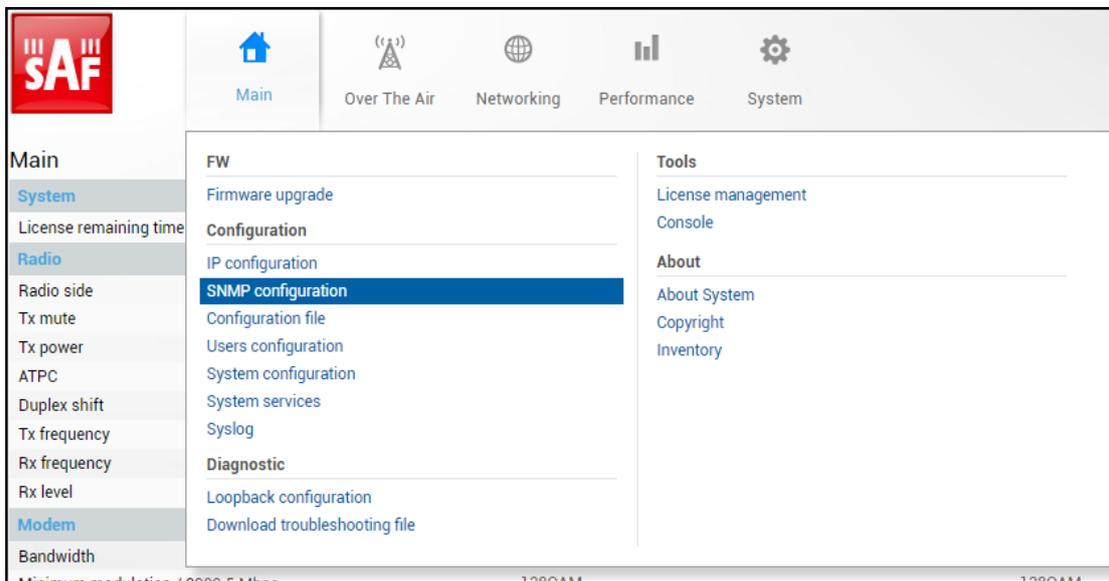

Figure 3-141 Accessing SNMP configuration page
Relevant MIB files can be downloaded directly from the Integra-E/E2/E3 Web GUI. See (7) in Figure 3-141 below.